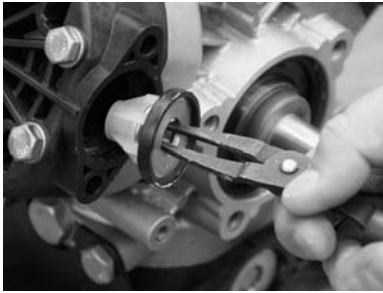

Fig. 5
4. Remove the suction valves for service or replacement. This can usually be done by hand, but use external pliers (as shown in Fig. 5) if necessary.